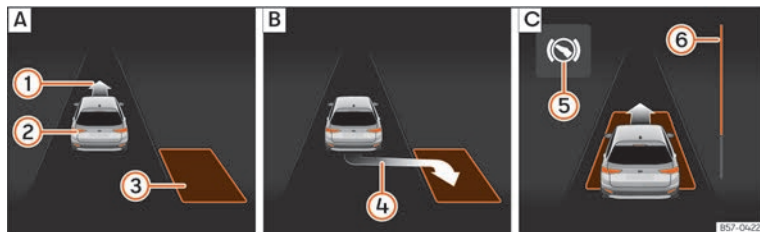
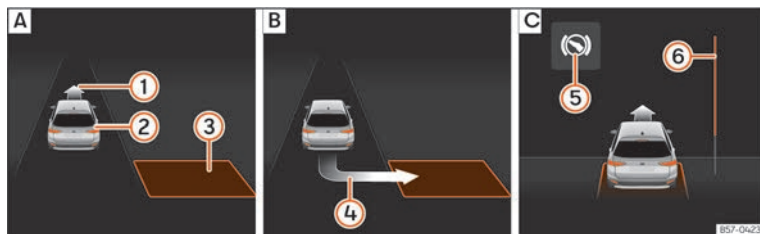

Fig. 166 On the instrument panel display: parallel parking. [A] Finding a parking space. [B] Parking position. [C] Manoeuvring.
Fig. 167 On the instrument panel display: angle parking. [A] Finding a parking space. [B] Parking position. [C] Manoeuvring.
- Look at the display on the instrument panel to see if the space has been detected as “appropriate” and if the correct position for parking has been reached »» Fig. 166 [B] or »» Fig. 167 [B]. The space is considered
- Reverse until the continuous ParkPilot signal sounds; **OR:** reverse until the indication to move forward appears on the instrument panel display » » Fig. 166 [C] or » » Fig. 167 [C]; **OR:** reverse until the **Park Assist finished** message appears on the instrument panel display. The progress bar [6] indicates the distance to cover » » page 246.
- Move forward until the continuous ParkPilot signal sounds; **OR:** move forward until the reverse indication appears on the instrument panel display. The Park Assist system steers the vehicle forward and back until it centres it in the space » » Fig. 166 [C] or » » Fig. 167 [C].
» » Fig. 166 [6] and » » Fig. 167 [6] on the screen of the instrument panel displays the relative distance to be covered. The greater the distance, the fuller the progress bar. When driving forward, the content of the progress bar decreases upwards, and when reversing, it decreases downwards.